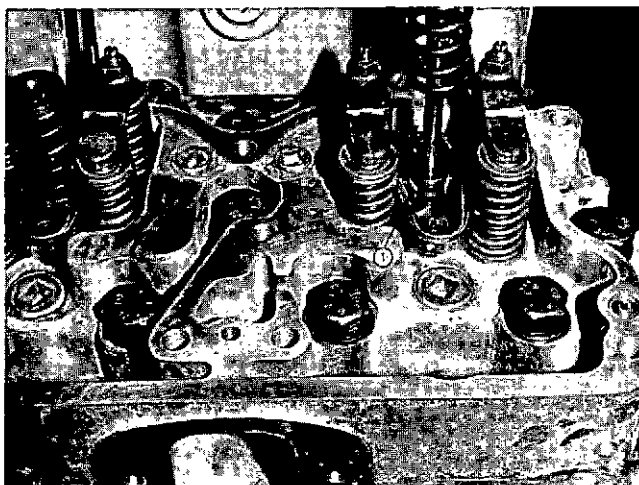

Fig. 14-1-60, V414159. Seating spring around locking clamp
5. Place hold-down plate over injector body with counterbore up; position half-collet locking clamp in injector body groove. Fig. 14-1-60. Start hold-down capscrews. Do not tighten.
7. Holding injector spring in position, carefully insert injector plunger. Fig. 14-1-60.